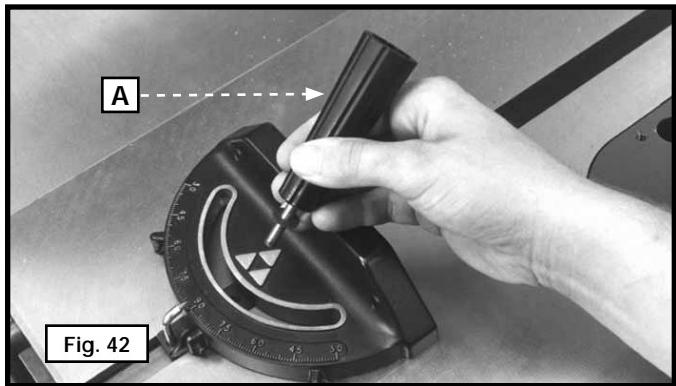

Fig. 42
Insert the miter gauge bar into the miter gauge slot. Attach the washer and lock handle (A) Fig. 42.
The miter gauge is equipped with adjustable index stops at 90° and 45° right and left. You can adjust the index stops by tightening or loosening the three adjusting screws (B) Fig. 42 with the supplied hex wrench.
To rotate the miter gauge, loosen the lock knob (A) Fig. 42, flip the stop link (D) out of the way, and move the body of the miter gauge (C).